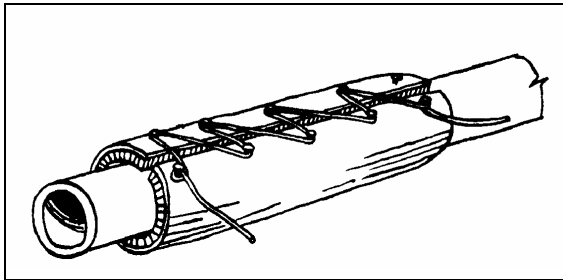

FIGURE 5: LACING WIRE INSTALLATION 01035
2. Form and compress blanket always working towards seams. Use temporary ties to position and hold blanket for forming, then shoelace for length of blanket using wire #509754 (fig. 5 shows typical installation). Perform a single loose wrap on each capstan. Align the small hole provided in the blanket with the exhaust port fitted on the exhaust pipe.
3. Form and compress blanket always working towards seams. Use temporary ties to position and hold blanket for forming, then shoelace for length of blanket using lacing wire #509754 (see figure 5 showing typical installation). Perform a single loose wrap on each capstan. Align the small hole provided in the blanket with the exhaust port fitted on the exhaust pipe.